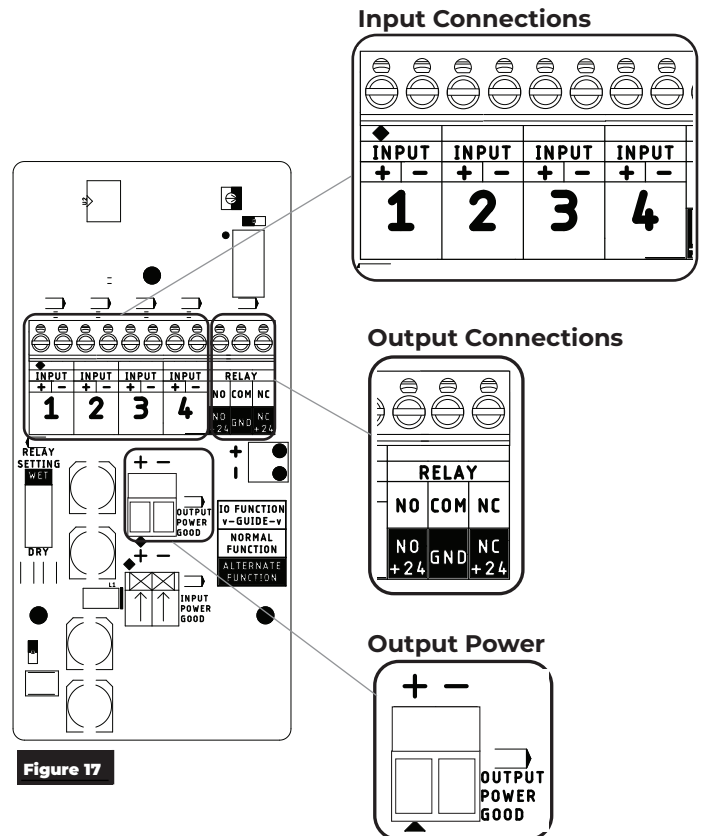

Figure 17
NOTE: Input and Output numbers are labeled on the control board. (Refer to Figure 17 for Input and Output Connection location)
Use the 2-position terminal block connectors labeled INPUT on the control board to add input devices on any of the four (4) inputs connections. (Figure 17)
Use the terminal block connections on the control board labeled Relay or Output Power to add any necessary outputs, such as electric strikes. (Figure 17)